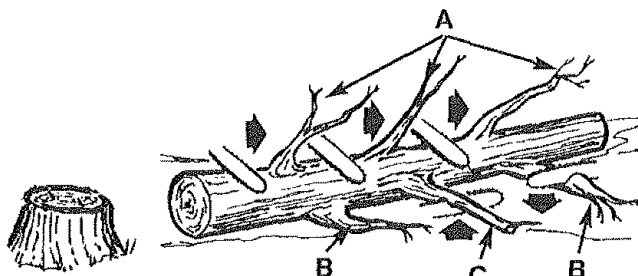

Fig. 16
First remove the limbs that are not supporting the fallen tree (A) (Fig. 16) before bucking the tree into shorter length. When removing the non-supporting limbs make sure that when cut they will not fall towards the operator or the saw. Once the tree has been bucked into shorter length (see BUCKING), remove the supporting limbs (B). All supporting limbs under significant tension (C) should be cut from the bottom up to avoid binding the saw.